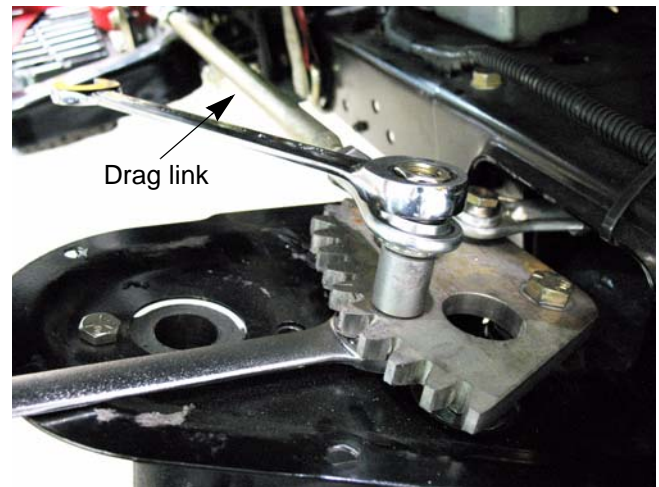

Figure 6A.91
3. Remove and discard the nut holding the drag link to the inboard steering gear using two 9/16" wrenches (one of them should be a slim-line wrench). See Figure 6A.91.